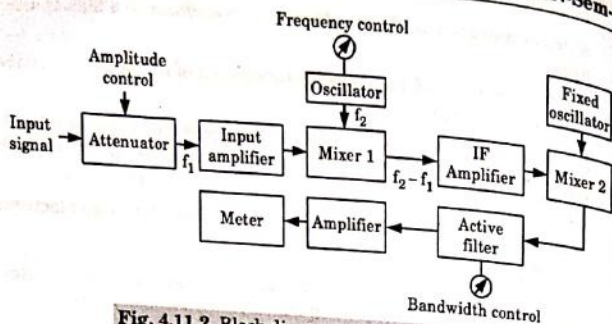

Fig. 4.11.2. Block diagram of a heterodyne wave analyzer.
- For frequency measurements in the megahertz range, a heterodyne wave analyzer construction is used, as shown in Fig. 4.11.2.